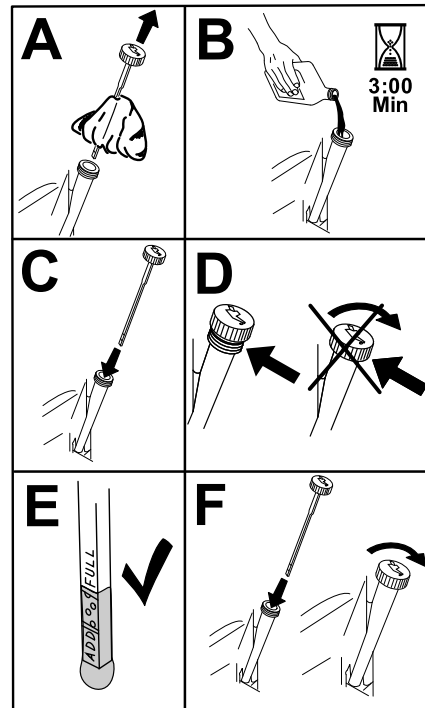

Figure 33
8. Slowly pour approximately 80% of the specified oil into the filler tube and slowly add the additional oil to bring it to the **Full** mark (Figure 33).